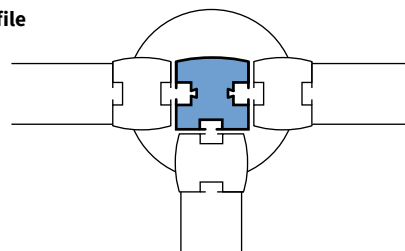

Figure 2.2 Profile linking
- b. Profile linking, in between the windscreen and a loose upright (see figure 2.2, 2.3 and 2.4).
- Profile linking, in between the windscreen and a separate upright (see figure 2.2, 2.5, 2.6 and 2.7).